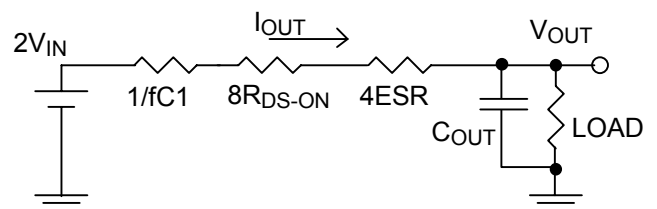

Fig. 22 The equivalent circuit of charge pump
According the equation (16), when the duty cycle is 0.5, the equivalent circuit of charge pump is shown in Fig. 22. The term  $8R_{DS-ON}$  is the total effect of switching resistance,  $1/fC_1$  is the effect of flying capacitor and  $4ESR$  is its equivalent resistance.
From the equivalent circuit shown in Fig. 22, it is seen that the terms  $1/fC_1$ ,  $4ESR$  and  $8R_{DS-ON}$  should be as small as possible to get large output current. However, for users, since the  $R_{DS-ON}$  is fixed and manufactured in IC, what we can do is to lower  $1/fC_1$  and  $ESR$ . However even the effect of  $1/fC_1$  and  $ESR$  can be kept as small as possible, the term  $8R_{DS-ON}$  still dominates the role that limits the maximum output current.